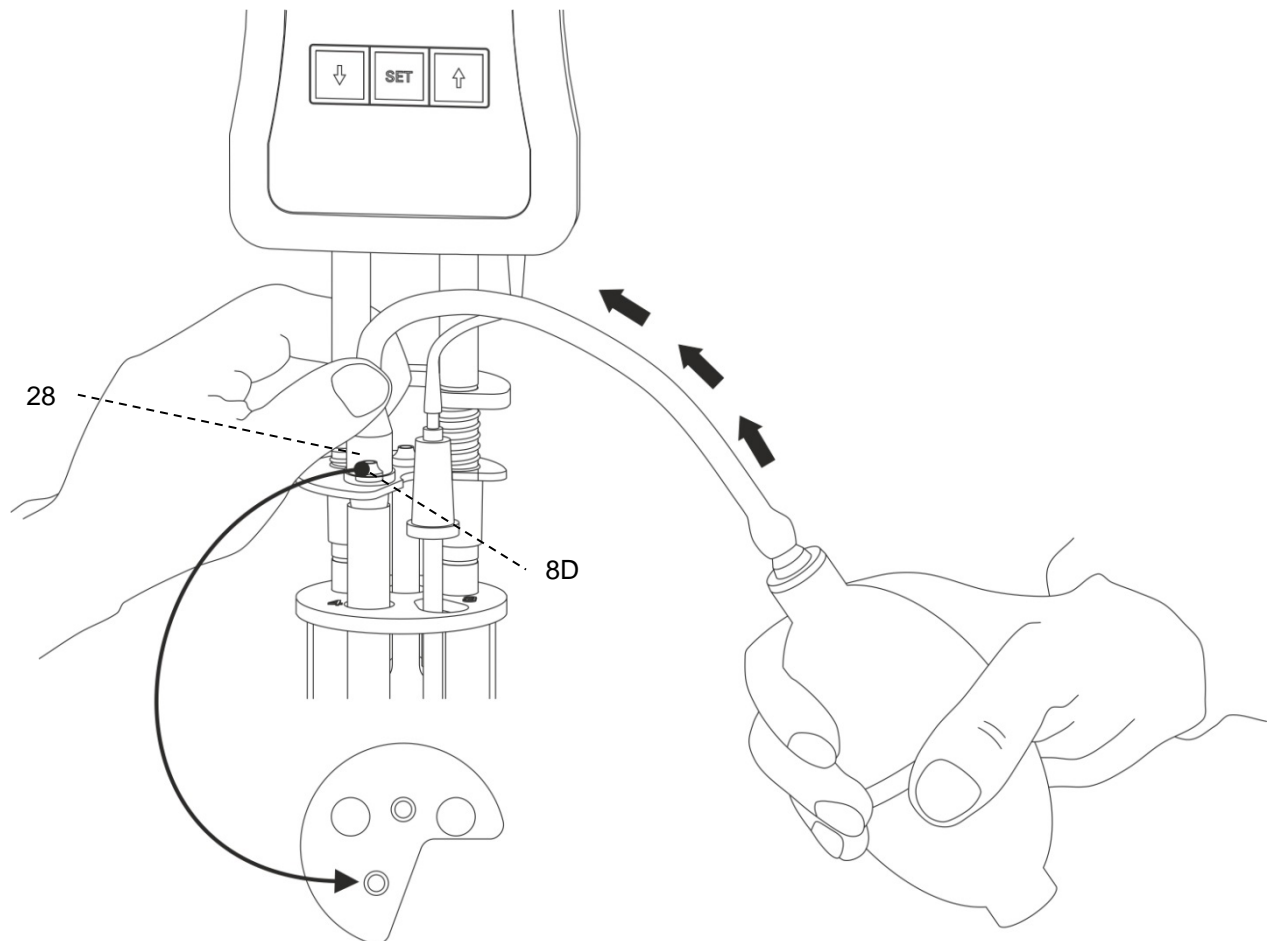

Fig. 8 Pressure mode liquid handling with manual pump VZ 6550
- (a) with pressure applied to the silicone plug (8D) above the filling tube (see  **Fig. 8**)